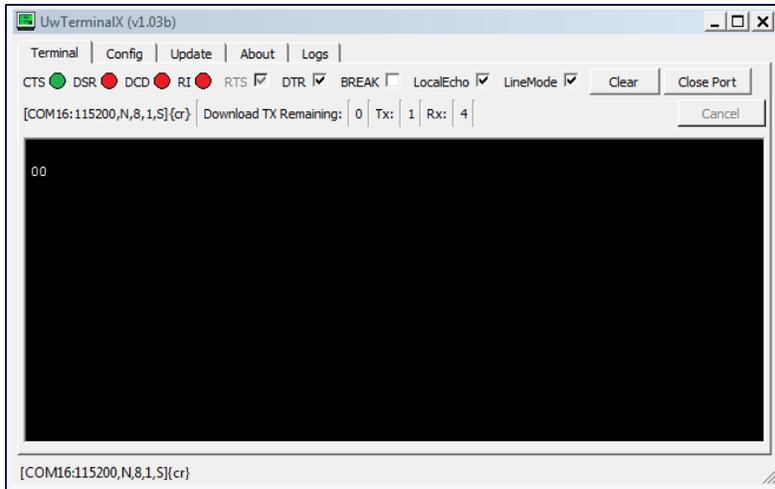

Figure 3: Terminal returns "00" for a successful operation
12. When the terminal displays *00*, the compiler has finished successfully (Figure 3).